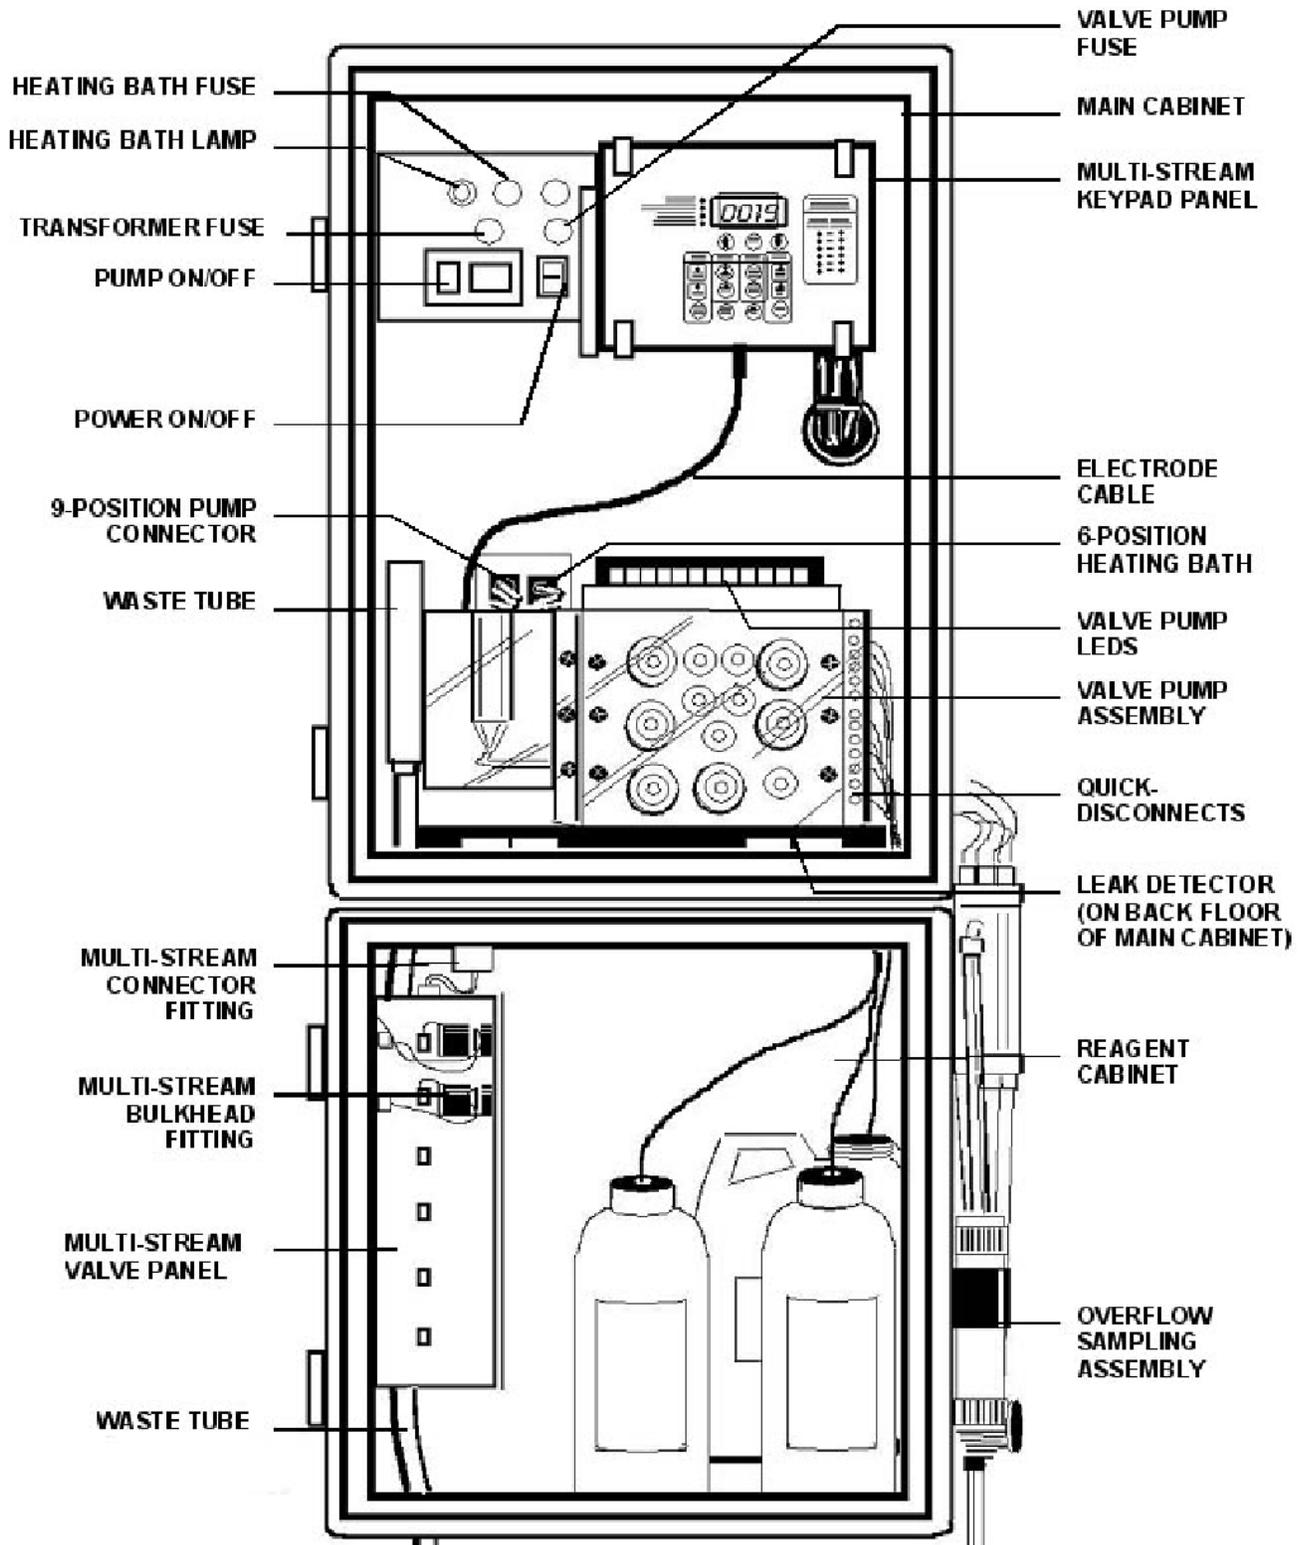

Figure 2-1. Opened Assembled Cabinet
After analyzer has been unpacked and all parts accounted for, install as described in following sections. Refer to Figure 2-1 to view a completely installed analyzer.
To install waste tube, proceed as follows (refer to Figure 2-1):
5. Attach colorimeter inlet tubing on left side of pump to flowcell inlet (see Figure 2-1).